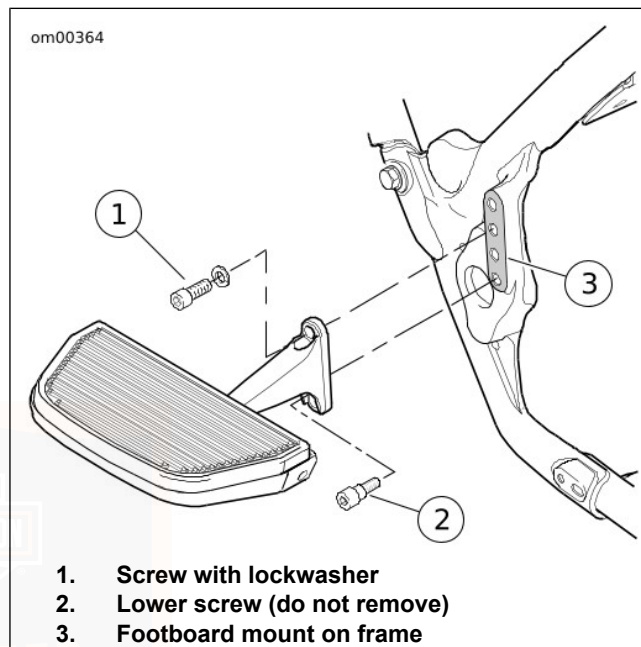

Figure 21. Passenger Footboard
1. See Figure 21. Remove socket screw with lockwasher from top of footboard bracket. Do not remove lower screw.